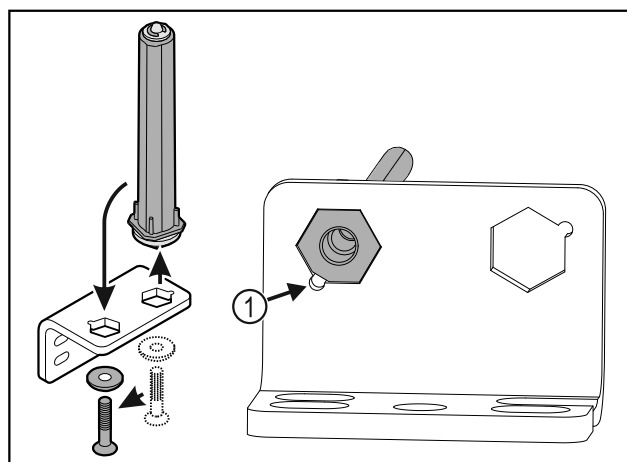

Fig. 33
- Make sure the pin chamfer Fig. 33 (1) faces the round hole when you put it in.